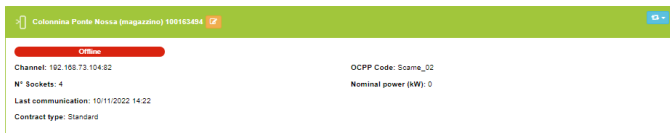

Figure 8.2
2. Click the  button in the header of the general section (Figure 8.2).